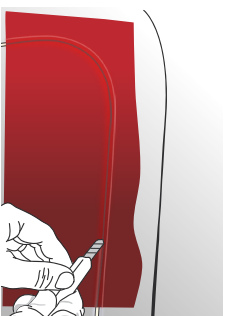

Figure 17
- ▶ Carry out the cutting of the film by using a cutter on the TIRODECO or by cutting it with the WRAPKNIFE cutting thread. (FIG. 17)